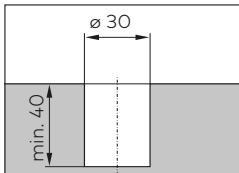

Fig. 1 Drill hole for the plastic insert
4. Drill a diameter of 30 mm and depth of at least 40 mm (Fig. 1).